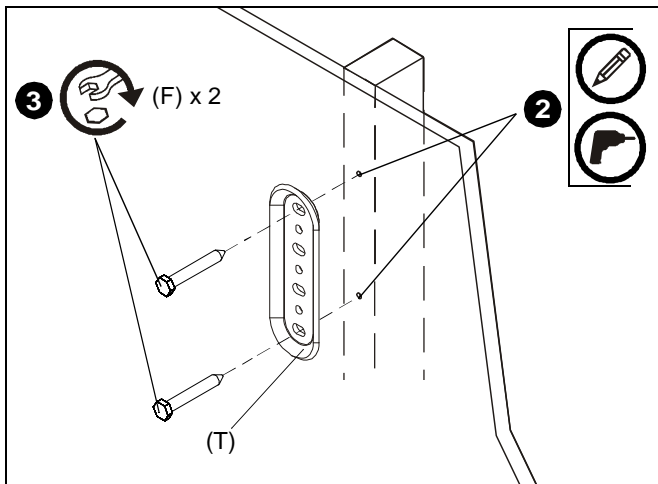

Figure 1
**NOTE:** Wall plate (T) MUST be installed into wood stud.
2. Using wall plate (T) as a template, mark then drill two 1/4" diameter x 3" deep pilot holes through top and bottom holes of wall bracket into wall structure. (See Figure 1)
3. Install two 3/8" x 3" hex head lag screws (U) through wall plate (T) and drywall into wood stud. (See Figure 1)
4. Ensure wall plate (T) is vertical, then tighten screws (D).